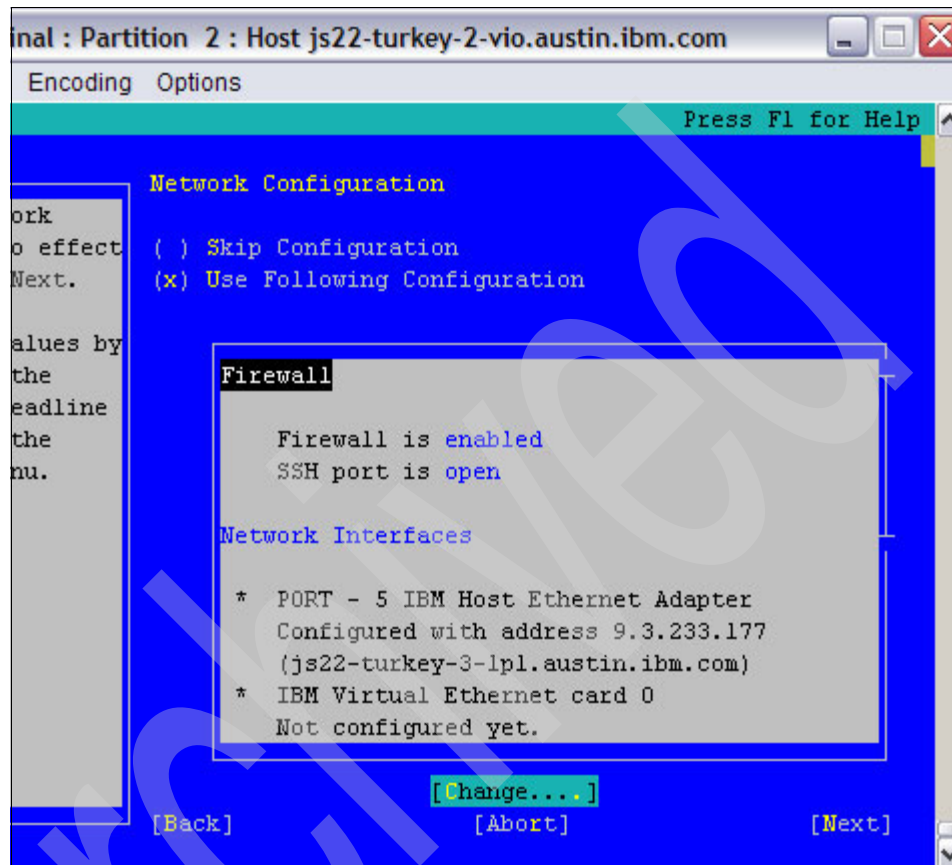

Figure 7-18 SSH port is open
- f. Now the Firewall section of the Network Configuration window (Figure 7-18) shows “SSH port is open.”